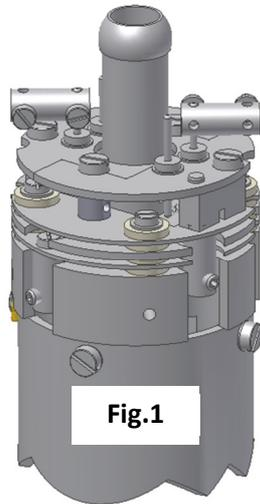

Fig.1
2. The filaments are located on the very top of the analyser, retained by four M2 x4 pan head screws. The electrical connections are made via two barrel connectors, one to each filament, see Fig.1.